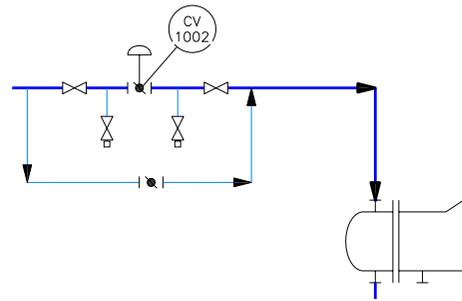

Figure 2-60 Gate valves placed on the secondary lines
- Next, delete the arrows on the secondary lines and place gate valves, as shown in Figure 2-60.